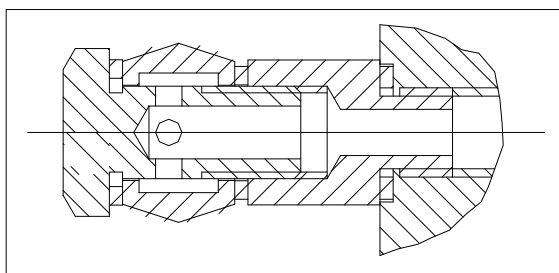

Fig. 33
- ◆ Connect the hydraulic unit to the circuit crossing with a flexible pipe. (**Fig. 33**)
The manufacturer supplies the rack to operate at 400V with a three-phase configuration; if the line voltage is different, the motor and transformer connection must be changed. (**Fig. 33**) It is also necessary to replace the thermal relay requesting that part from the manufacture and/or service center.